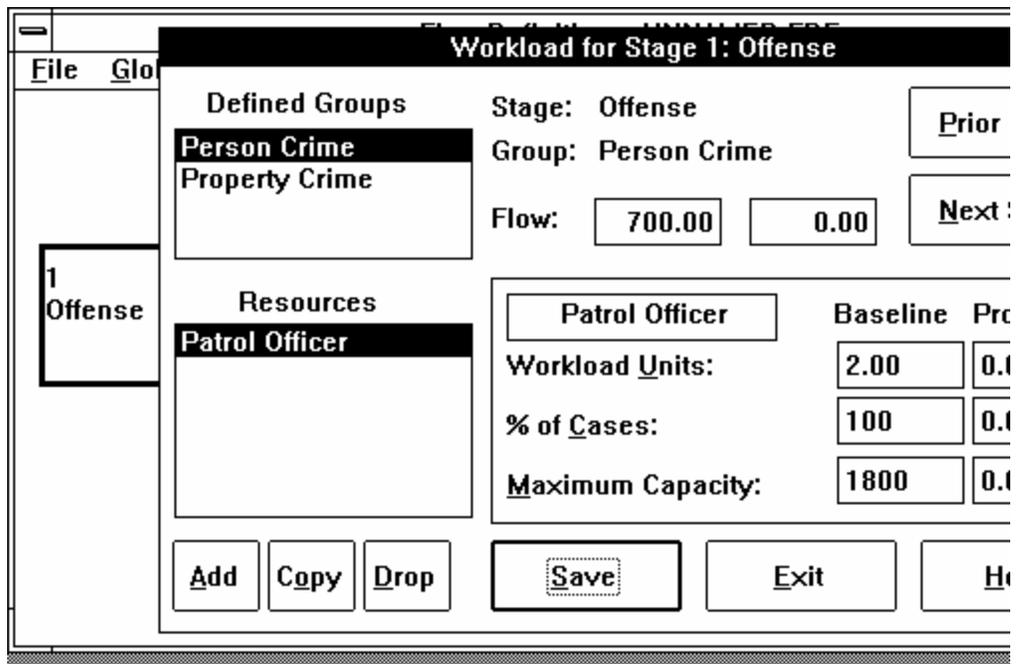

Figure 5-26. Entering Workload Units.
7. TAB twice to move to the box for Maximum Capacity for Baseline box. Enter **1800**. The screen will appear as in Figure 5-26.